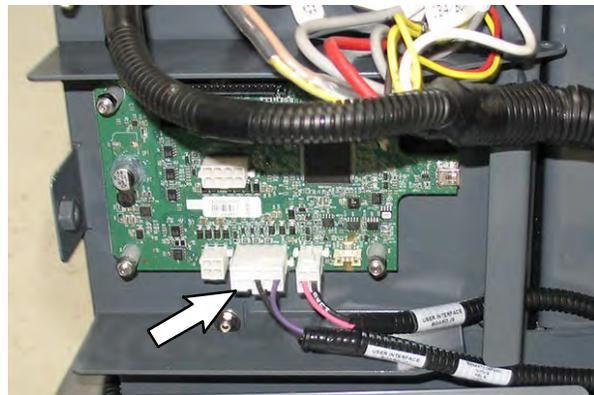

FIG. 23
14. Connect the UI power electric harness (17) 10-pin connector to the communication board (13) J7 terminal. (Fig. 23)